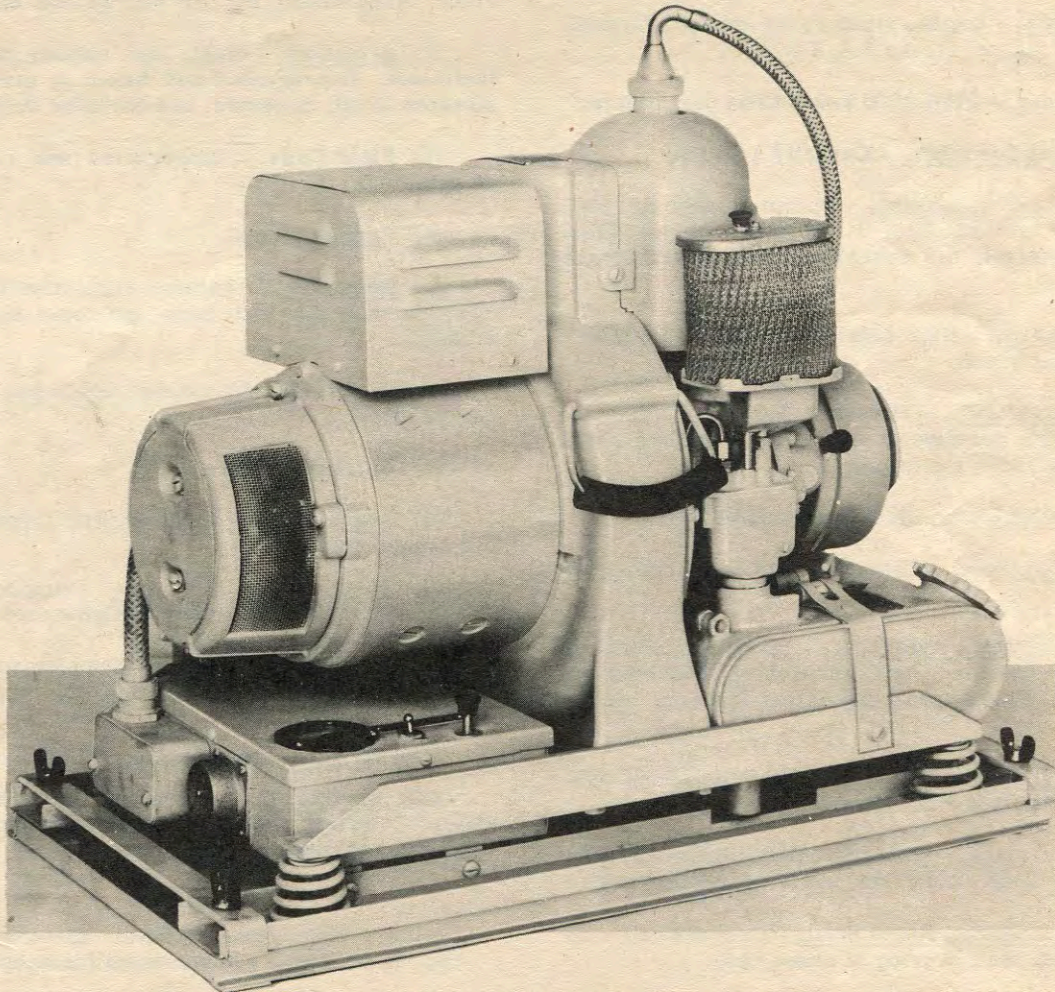

Figure 1 - Model HRU-28 Power Plant Assembly
4. The following text applies to an integral, self-contained gasoline engine-driven d-c generator, with controls, having an output of 2000 watts rating 28.5 volts. (See figure 1.)